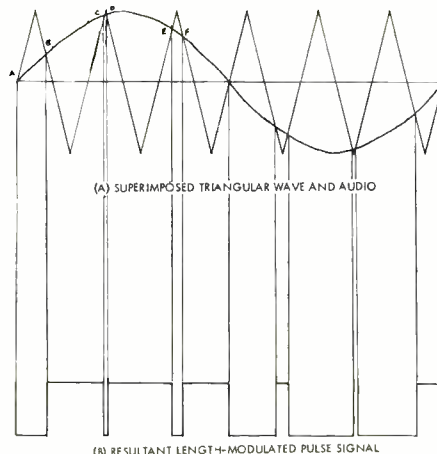

Fig. 5. Generating a pulse-length-modulated signal using a triangular wave.
The waveforms involved in this method are shown in Fig. 5. In (A) of Fig. 5, we see the superimposed audio and triangular wave signals. This mixture has two basic characteristics. One is that there are clearly defined instants of time when the two signals have the same amplitude—that is, the two waveshapes cross. A circuit can be devised which switches back and forth between two states (say, *on* and *off*) whenever the two signals are equal. Such a circuit might be termed a coincidence circuit. The other characteristic is that, except at these crossover points, one signal is always larger than the other, and the order of their magnitudes changes at the crossover points. For example, at the beginning of the waveshapes shown (point A), the tri-
angular wave has a greater amplitude, but at point B they reverse and the audio has a greater amplitude. Then at point C they switch again and the triangular wave is again larger, and so on. This characteristic can also be used to generate a modulated signal, by using a circuit which switches to one state when the audio signal is larger than the triangular signal, and switches to the other state when the triangular wave is larger than the audio signal. The resultant signal is shown in B of Fig. 5.
As soon as the triangular wave becomes more negative, the forward bias on  $Q_2$  decreases until the emitter is more negative than the base and  $Q_2$  cuts off. The collector current is therefore almost zero, and the collector voltage of  $Q_2$  is about -12 volts. The output of the circuit is therefore about -2 volts whenever the audio signal is more negative than the triangular wave, and is about -12 volts whenever the audio signal is more positive than the triangular wave. The length of the negative (-12 volt) portion of the pulse depends therefore on the length of time that the audio signal is more positive than the triangular wave. Except for a phase reversal, we have therefore generated the modulated pulse shown in Fig. 5.
But as it turns out, the circuit is relatively slow acting. This is due to several causes. For one, the region between full-on and full-off for transistor  $Q_2$  is rather wide, and there is a portion of the triangular wave when the wave is slowly changing through the transition region. The output pulses from the modulator do not therefore have the steep rise and steep fall of the wave shown in (B) of Fig. 5, but instead each pulse increases slowly and decreases slowly. Some waveshaping is therefore required at the output of the modulator, because these transition regions are undesirable.